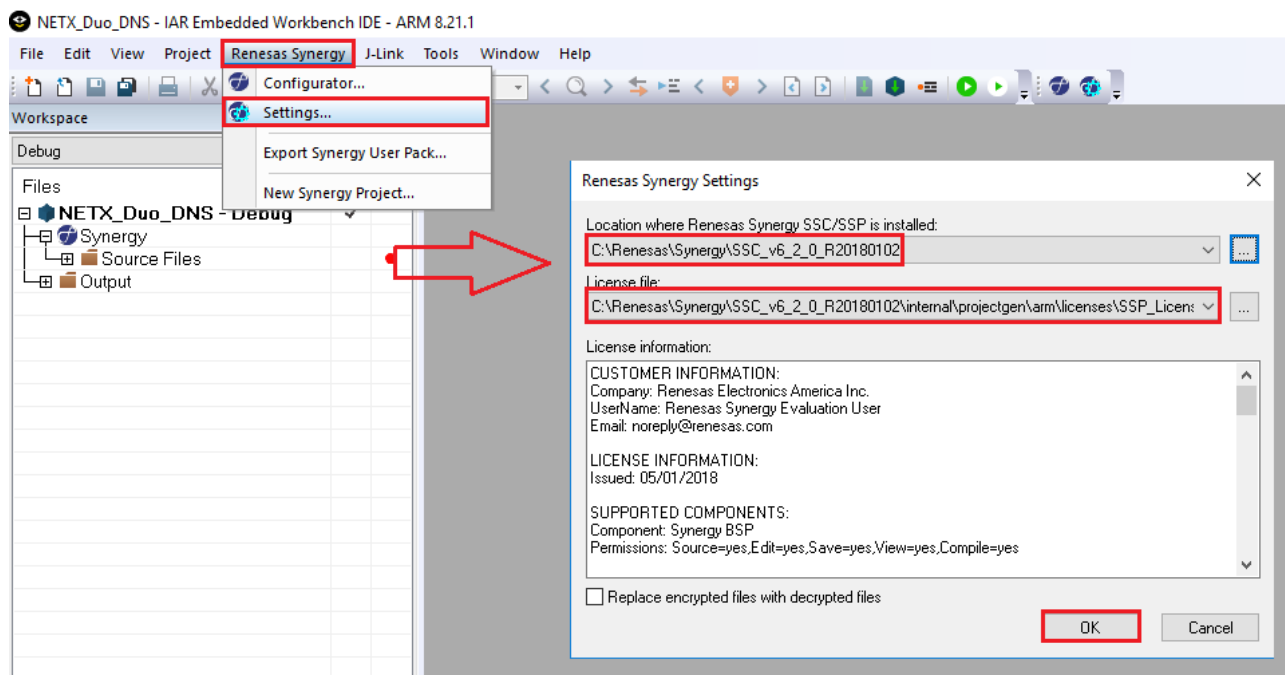

Figure 1.3 SSC/SSP settings
1. Click **Renesas Synergy >Settings** to open the **Renesas Synergy Settings**. If the License file and the SSC/SSP folder are already configured, the License area and SSC/SSP location of the form displays (Figure 1.3). If these settings are shown, skip to step 3.